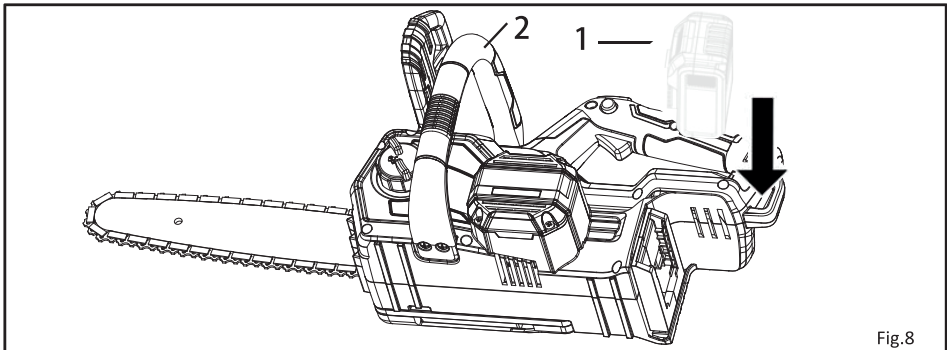

Fig.8
BATTERY PACK (See figure 8)
- Fit the battery pack into the chain saw .(see figure 8)